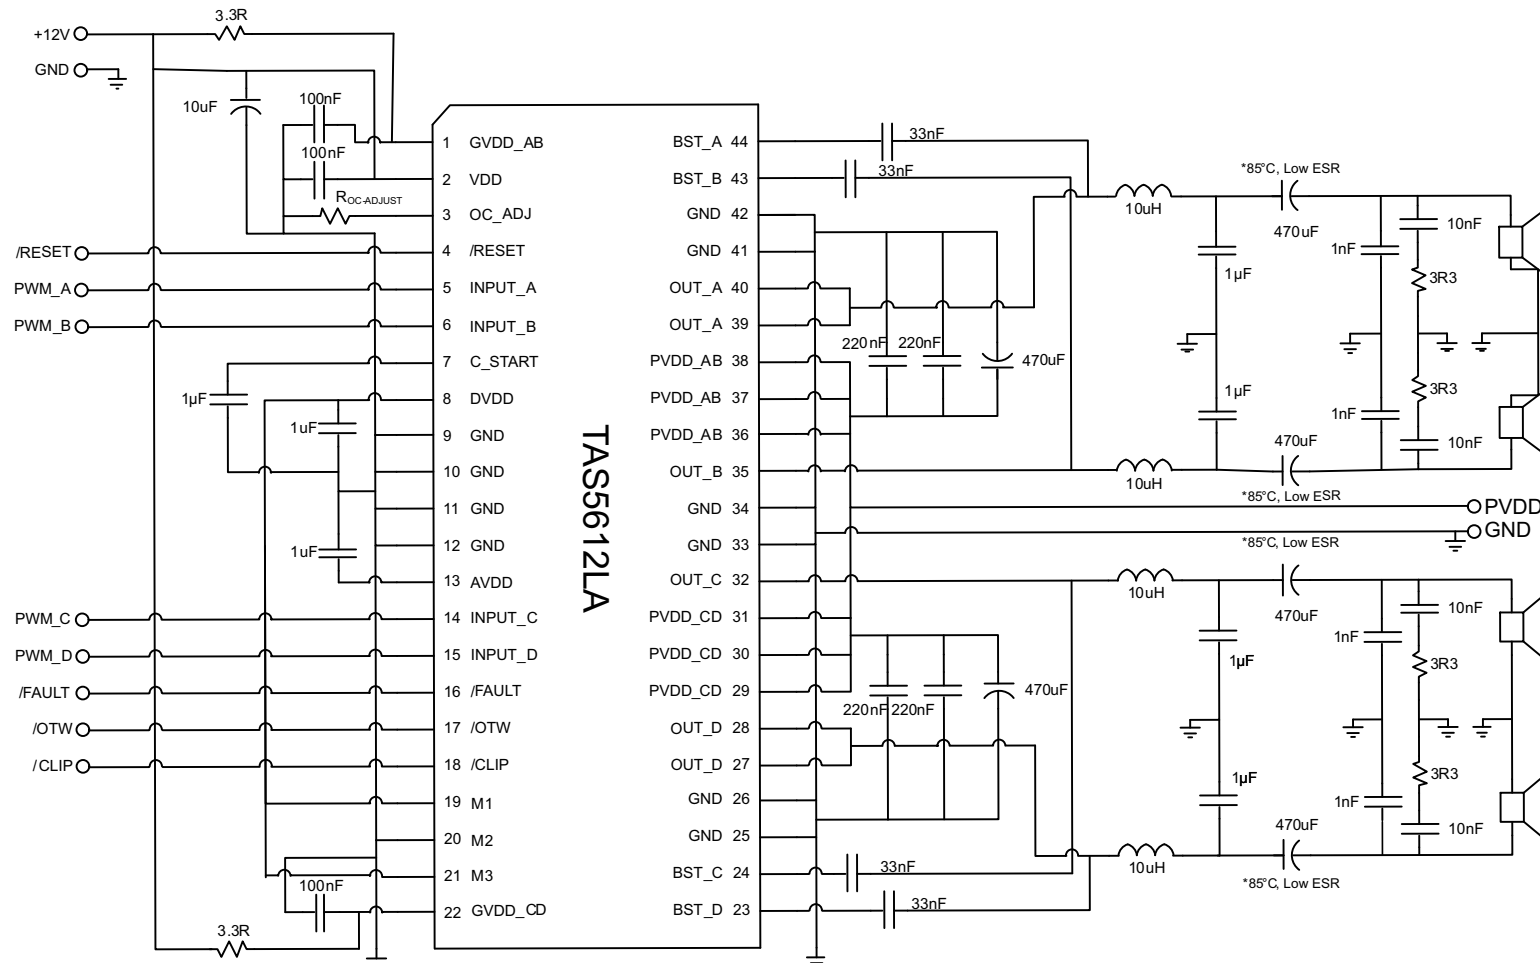

图 22. Typical (1N) SE Application
See 图 22 for application schematic. In this application, four single-ended PWM inputs are used with AD modulation from the PWM modulator such as the TAS5558. AD modulation scheme is defined as PWM(+) is opposite polarity from PWM(-). The single-ended (SE) output configuration is often used to drive 4 independent channels in one TAS5612LA device.
- Pins 27, 28, 32, 35, 39, 40 - Output pins from half-bridges A, B, C, and D. Connect appropriate bootstrap capacitors and differential LC filter as shown in 图 22.
- Pins 29, 30, 31, 36, 37, 38 - Power supply pins to half-bridges A, B, C, and D. A and B form a full-bridge and C and D form another full-bridge. A 470-μF bulk capacitor is recommended for each full-bridge power pins. Two 0.22-μF decoupling capacitors are placed on each full-bridge power pins. See 图 22 for details.